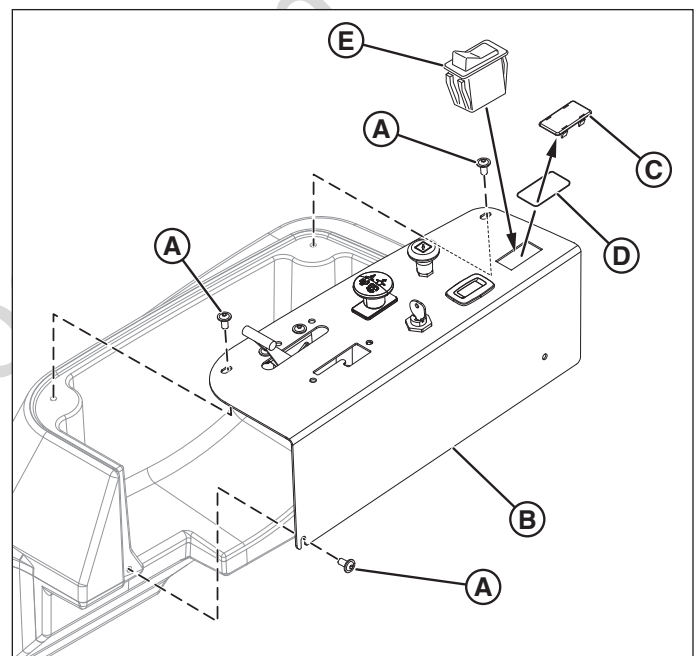

Figure 2. Removing the Hole Plug
2. Remove the three (3) screws (A, Figure 2) from the control panel (B).
4. Remove the hole plug (C) and O-ring (D) from the control panel.
5. Put the light switch (E) into the control panel.
8. Put the control panel into the fender and secure using the three (3) screws.